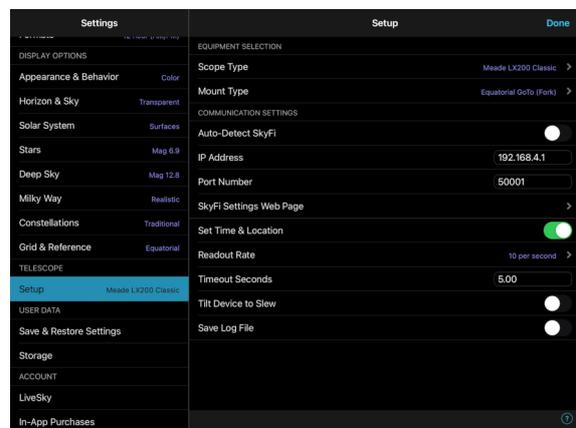

Figure 7: The *Setup* screen of *Sky Safari Plus* – here, the basic settings for connecting to Blue Lizard are shown.
- Start *Sky Safari* and go to the *Settings menu*; in the *Telescope* menu (Fig. 7), choose
As shown in Fig. 7, one can force *Sky Safari* to submit the topical time and location – *this is extremely useful for mobile use*. Setting the time also synchronizes the RTC.